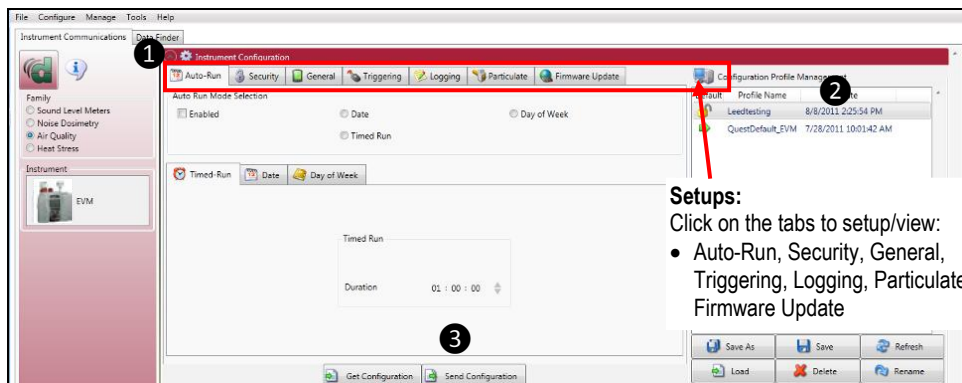

Figure 6-7: Saving and sending EVM setups
There are seven configurable EVM setup screens (see ❶ in Figure 6-7 below) in the setup page. With the EVM, you have the option to save the configurations either on the instrument and/or store the configurations in DMS.